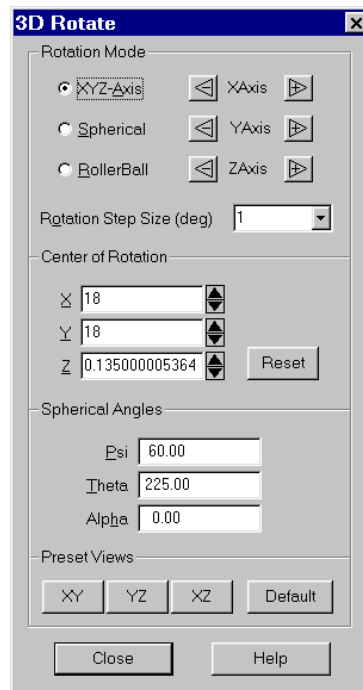

Figure 7-14. The Rotate dialog.
7.6.2.2. The Rotate Dialog. You may also rotate your plots using the 3D Rotate dialog under the View menu, shown in Figure 7-14. At the top of this dialog, there are three options specifying three rotation modes—XYZ-Axis, Spherical, and Rollerball. Depending on the rotation mode chosen, the array of buttons to the right of the options will vary. To rotate the image, click these options. Each click rotates the image by the number of degrees specified in the Rotation Step Size text field.